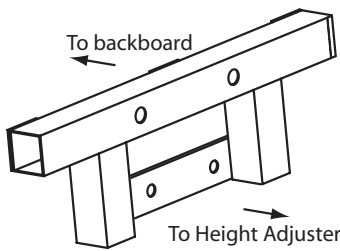

Figure 6
- 1 Locate 42" Glass Bank Spacer Assembly (see Fig. 6). Only 42" Glass Backboards require this unique spacer between the board and the Height Adjuster.